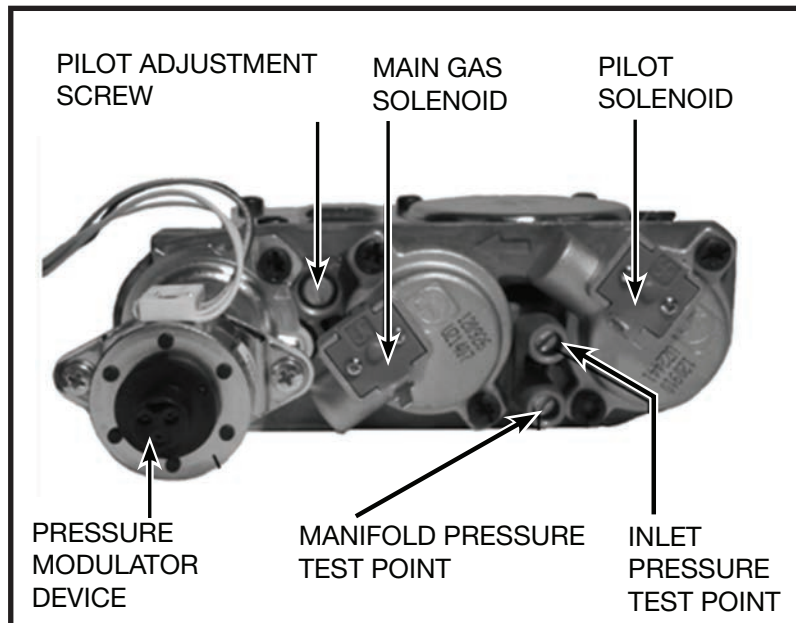

Figure 44: Gas control valve.
2. Locate the inlet and outlet test points on the valve which can be seen in Figure 44. After locating test ports loosen the screws within the ports using a flat-tipped screwdriver.